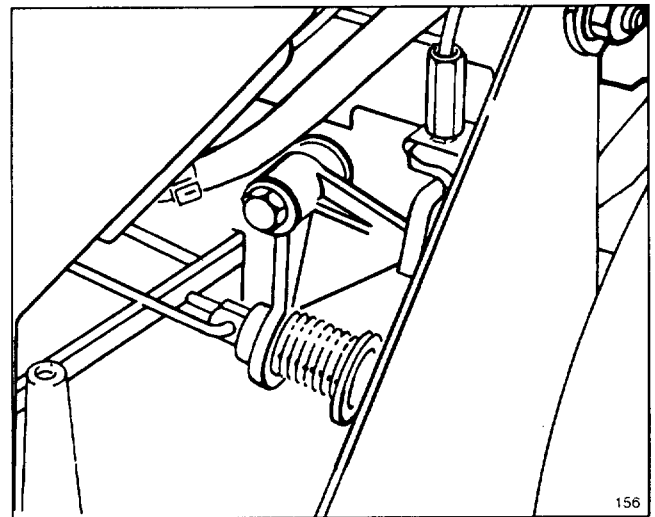

Figure 28
4. Remove any debris that may have accumulated in area behind panel (Fig. 28).
5. Reinstall vertical panel. Secure panel screen to mower deck with (2) 1/2" self tapping screws.